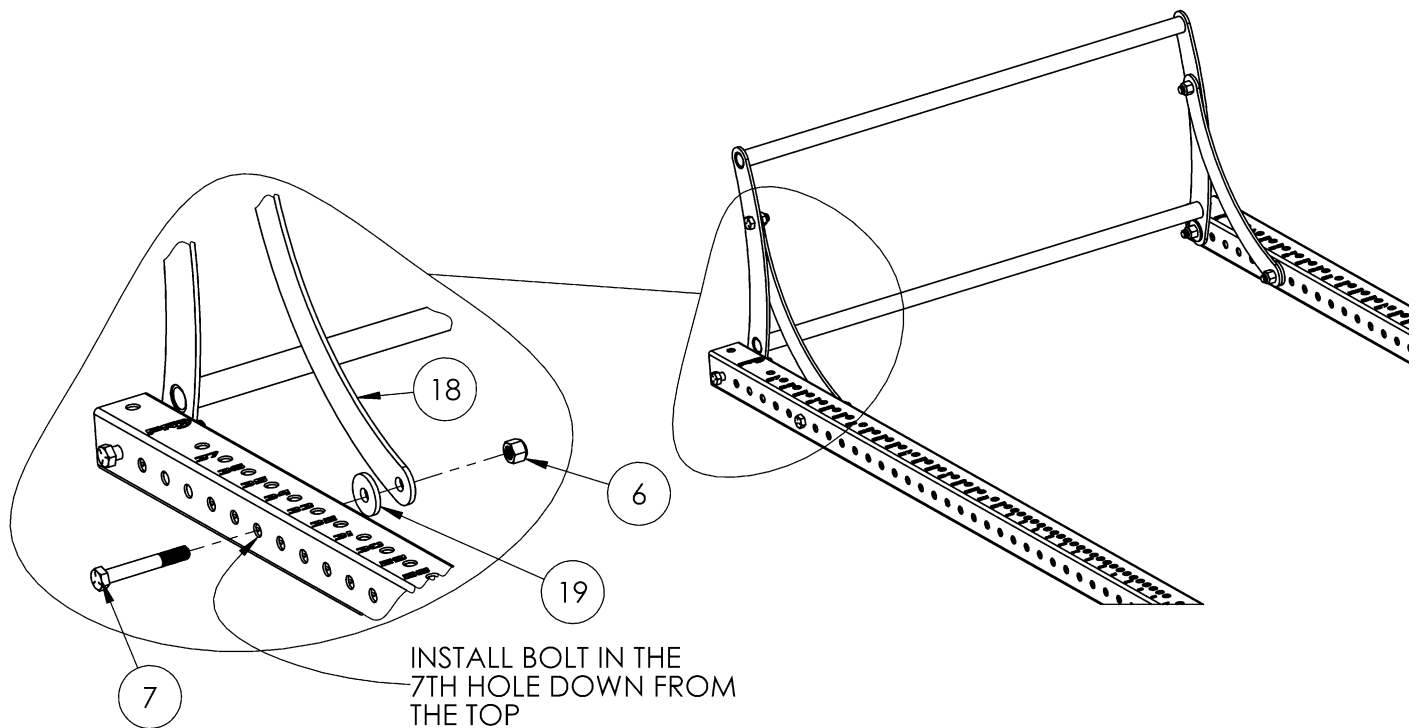

**Figure 7:** Attaching the Kipping Bar to the Uprights
2. Lay the Kipping Bar (17) on the ground (**Figure 7**) with the center of the Kipping Bar off the floor.
3. Attach Kipping Bar Arms (18) (**Figure 7**) with supplied 1-1/2" hex head bolts (9) and 5/8" lock nuts (6). Do not fully tighten bolts.
4. Position the Kipping Bar (17) so that the holes align with the top hole of both uprights (**Figure 7**). Using the 5" hex head bolts (10), 5/8" washers (5), and 5/8" lock nuts (6), attach the Kipping Bar to each upright (**Figure 7**), (hand tighten nuts onto bolts, they will be removed later to attach upper linkage arms).